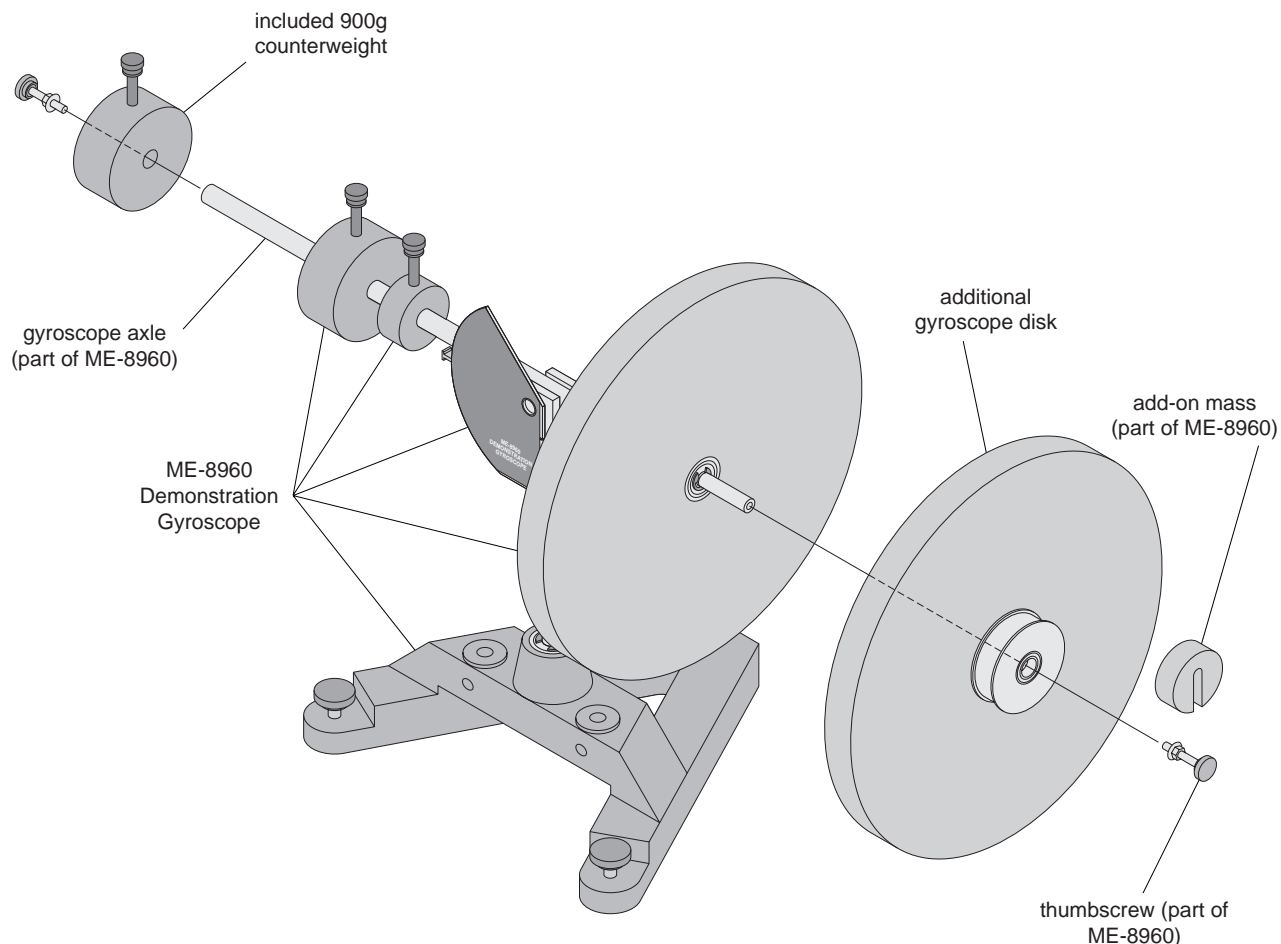

Figure 4: Using the Additional Gyroscope Disk
- ① Slide the included 900g counterweight onto the long side of the gyroscope axle and tighten the thumbscrew.
- ② Put the Additional Gyroscope Disk on the other end of the gyroscope axle with the pulley side of the disk facing away from the center of the gyroscope apparatus. Secure the disk in place with the supplied thumbscrew. See Figure 4.